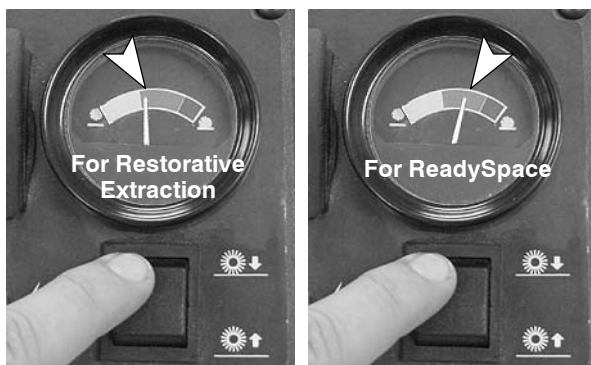

FIG. 8
3. Adjust the brush pressure meter within the green zone by pressing the brush pressure switch. For best cleaning results, adjust the brush pressure meter as shown below (Figure 8).